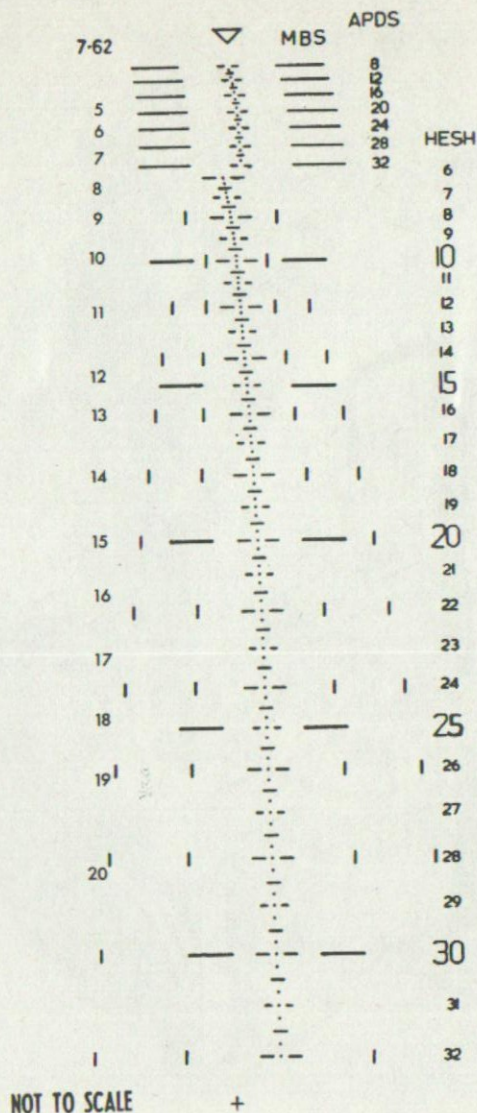

Fig 35 - TLS, No. 1, Mk 1 and No. 1c graticule pattern
- (6) A lever operating the trunnion tilt compensator is positioned above the X8/X10 eyepiece. The lever has two marked positions, FREE and LOCKED. The tilt compensator should be set at FREE during firing.
- (7) The X8/X10 graticule can be illuminated by a lamp unit situated to the right of the eyepiece. The unit is hinged to facilitate bulb changing and is retained by a screw. The bulb used is a midget flanged 28 volt .08 amp.
- (8) A lever marked 'bore sight check' is situated to the right of the X1 window. This has two positions, marked IN and OUT; unless the muzzle reference system is being used, the lever must be set to the OUT position.
- (9) Positioned on the rear face of the sight is the total flash counter; this records the total number of flashes made with the sight. At the bottom of the counter is the charge/flash button.
- (10) On the lower right and left side of the sight are the cooling fan grills.
- (11) There are three electrical sockets on the body into which fit leads from the power unit. One socket is on the front of the body, a further two are on the underside. In addition, on TLS No. 1 Mk 1 or Mk 2 and TLS No. 3 Mk 1, there are additional sockets which are used when a range unit and a commander's readout facility are provided.
- (12) Included in the optical system is a ballistic graticule used for direct fire. (See Figs 35, 37 and 38)